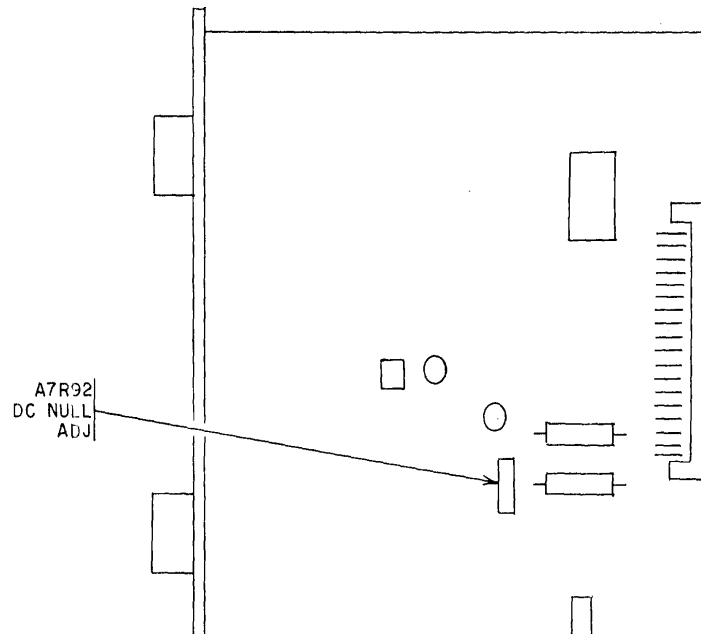

Figure 3. A7 mixer.
(11) Remove ground from A6TP5 and adjust **DC NULL ADJ A7R92** (fig. 3) for 0 V  $\pm$ 0.01 V dc (R).
(12) Press **ON-STBY/POWER** pushbutton to **OFF**.